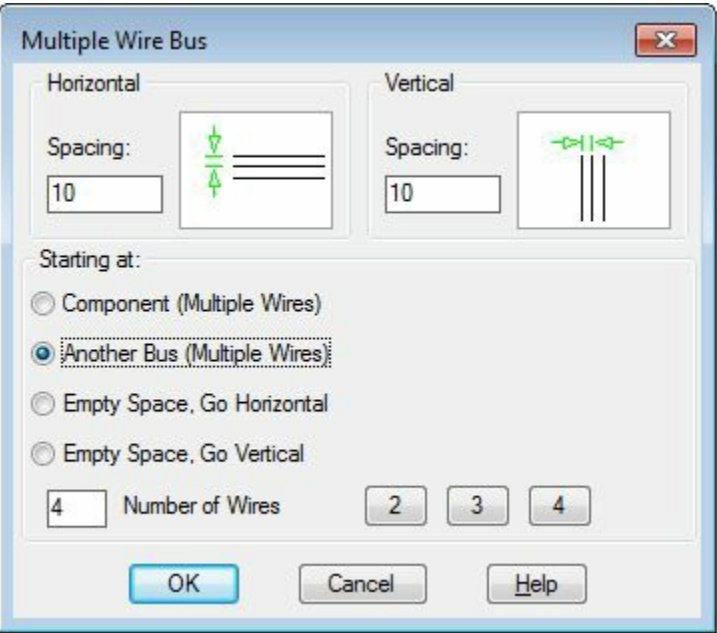

Figure-53. Multiple Wire Bus dialog box
- Click on the **Multiple Bus** tool from the **Insert Wires/Wire Numbers** panel in the **Ribbon**. The **Multiple Wire Bus** dialog box will be displayed as shown in Figure-53.